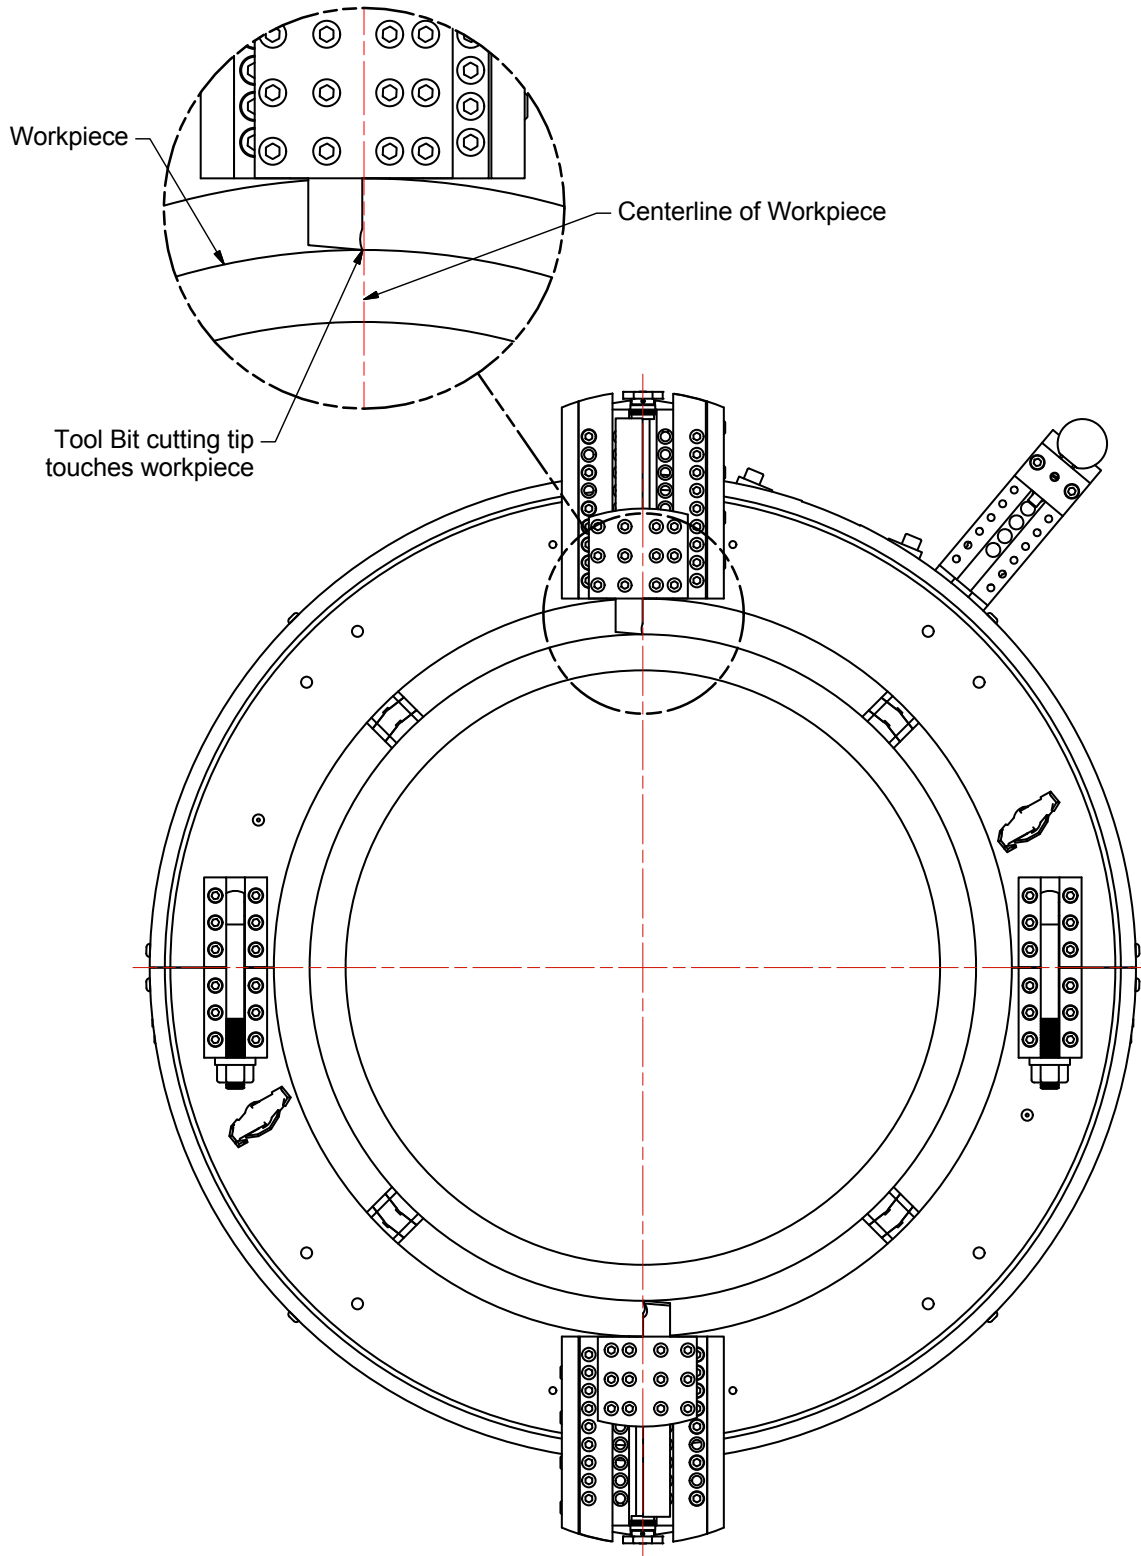

Figure 2-11 – Position Tool Bits
12. The tool bit cutting tip must lie on the centerline of the workpiece. Position each tool bit so that it touches the workpiece. Lightly tighten set screws on top of each tool block to hold the tool bits, yet allow movement to set the tool bit at the proper position. See Figure 2-11.